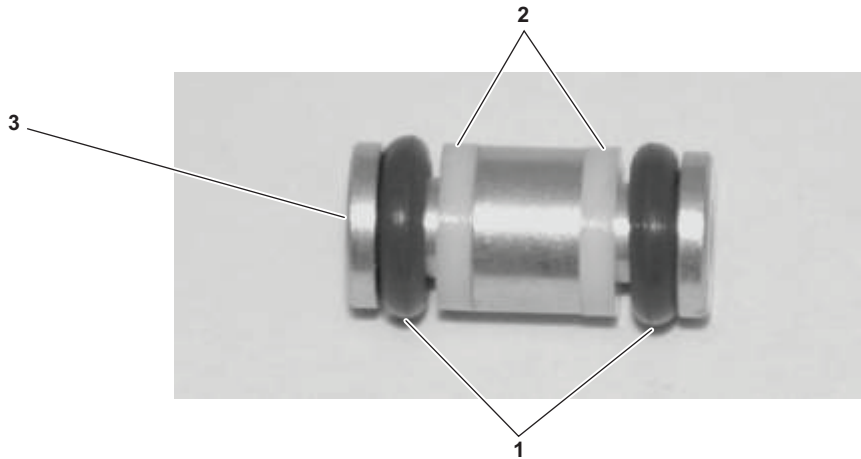

Figure 6-35. Mounting Probe Preformed Packing and Packing Retainers
- (6) Inspect the preformed packing (figure 6-35, item 1) and the packing retainers (figure 6-35, item 2) on the mounting probe (figure 6-35, item 3) for nicks, cuts, wear and tear, or foreign debris. As necessary, remove and replace IAW paragraph 6.1.5.
- (7) Install the mounting probe (figure 6-35, item 3) into the pressure reducer.